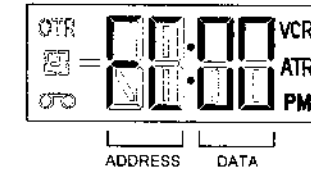

Fig. 1
- While pressing the CH UP button on the set, press the FF button on the set for more than 2 seconds. ADDRESS and DATA should appear as FIG 1.